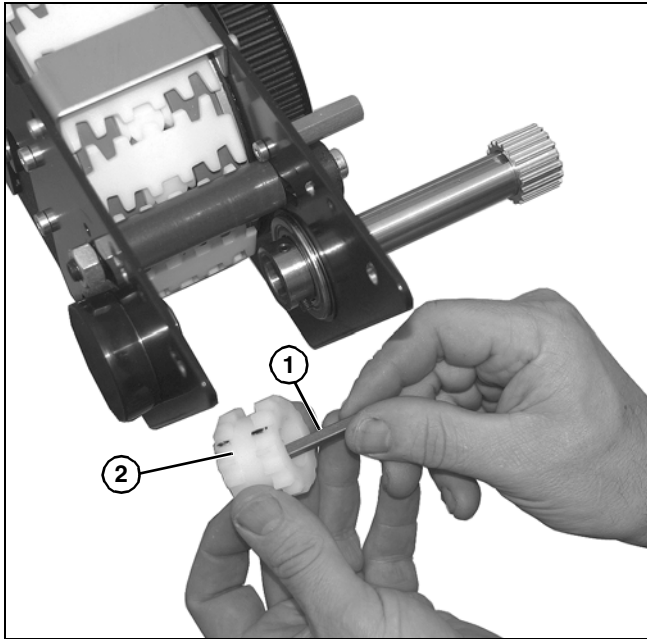

Figure 101
17. Remove key (Figure 101, item 1) from gear (Figure 101, item 2).